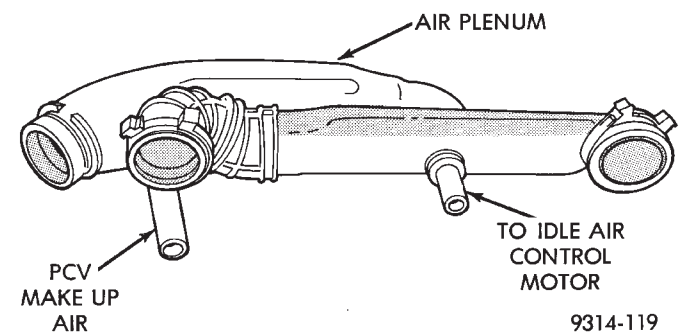

Fig. 42 Air Plenum—3.5L Engine
(8) On 3.5L engines, ensure the air plenum hoses are attached to the idle air control motor and the make up air nipple for the PCV system (Fig. 42). Also ensure the PCV hose is connected to the PCV valve, not the idle air control motor.
(9) Ensure purge hose is connected to throttle body (on 3.5L engines each throttle body has a purge hose).